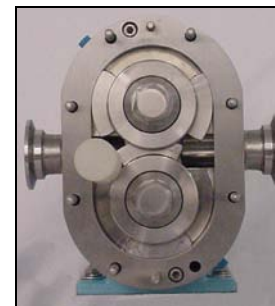

**Figure 32 - Blocking Dowel**
1. Use blocking dowel to keep rotors from turning when removing rotor nuts. Always use dowel to block rotor against body, not against other rotor. See Figure 32 through Figure 34.